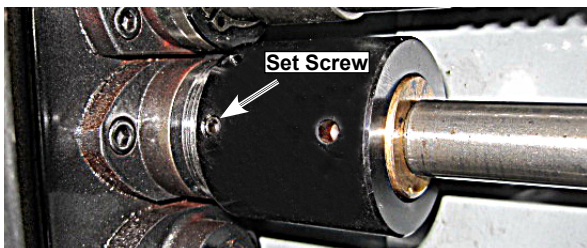

Figure 89. Removing set screw from clutch collar.
3. Remove the clutch collar set screw, as shown in Figure 89.